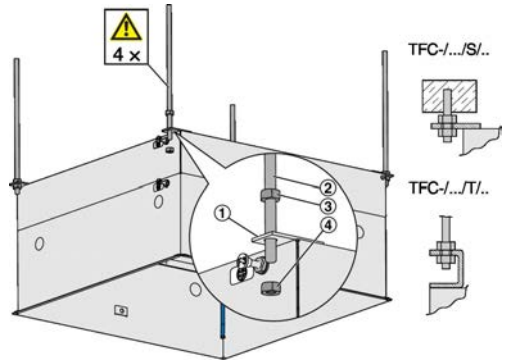

Fig. 2: Fixing
- ▶ Fix any suspension elements, e.g. threaded rods (Fig. 2/2), to the ceiling.
- ▶ Start by suspending the TFC casing on three suspension lugs (Fig. 2/1); ensure that the casing is horizontal, fix the nuts accordingly (Fig. 2/4), then use the locknuts (Fig. 2/3) to secure the suspended casing.